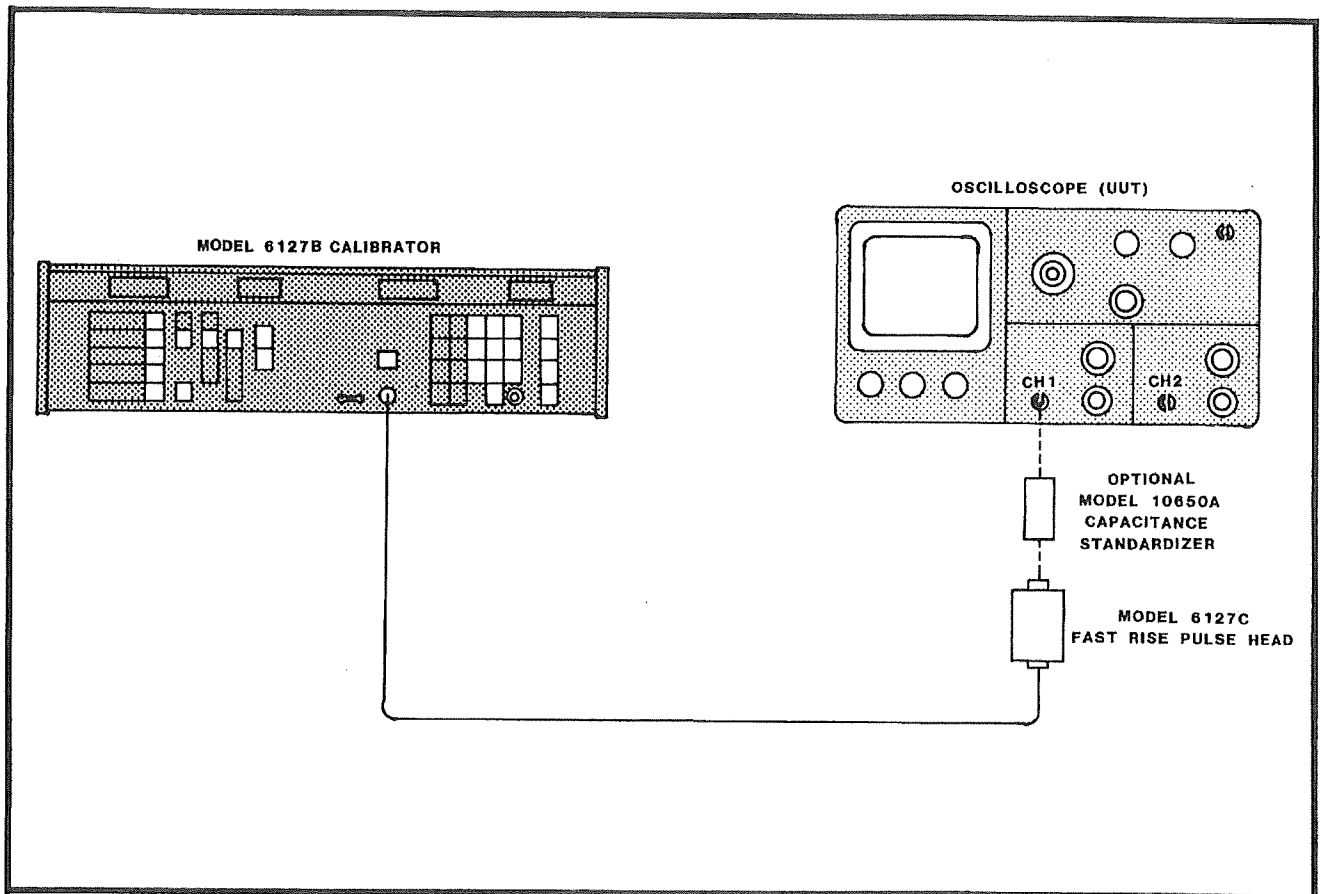

Figure 3-12. Volts/Div Mode, Equipment Set-Up
a. Select the VOLTS/DIV OUTPUT mode to provide squarewaves having extremely flat tops and bottoms, a precisely known peak-to-peak amplitude and a crystal controlled frequency. Attach the Model 61271C Accessory Head to connect the Calibrator signal to the oscilloscope amplifier (UUT). (Refer to figure 3-12 for test equipment set-up.)